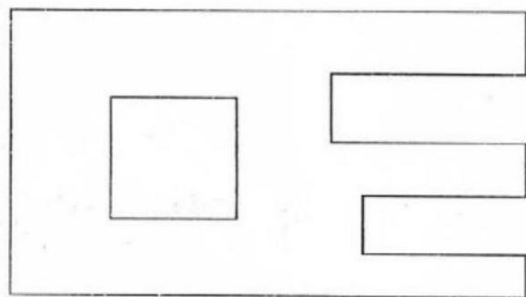

Fig.6
- Copy Fig. 6 to 1:1 scale and dimension it using unidirectional system with Combined dimensioning method